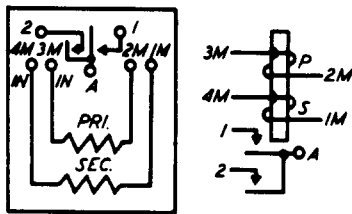

Fig. 3 - Winding and Spring Terminal Arrangement as Viewed From the Rear (terminal side) — B-, C-, G-, and J-Type Relays
2.13 Armatures are not designated from the front. As viewed from the rear of the relay, contact spring and winding terminals are located in three rows as shown in Fig. 3. The contact spring terminals are located in the top row and are numbered consecutively from right to left. The winding terminals are located in the middle row and are designated from right to left. The letter M following the number indicates the middle row of terminals.